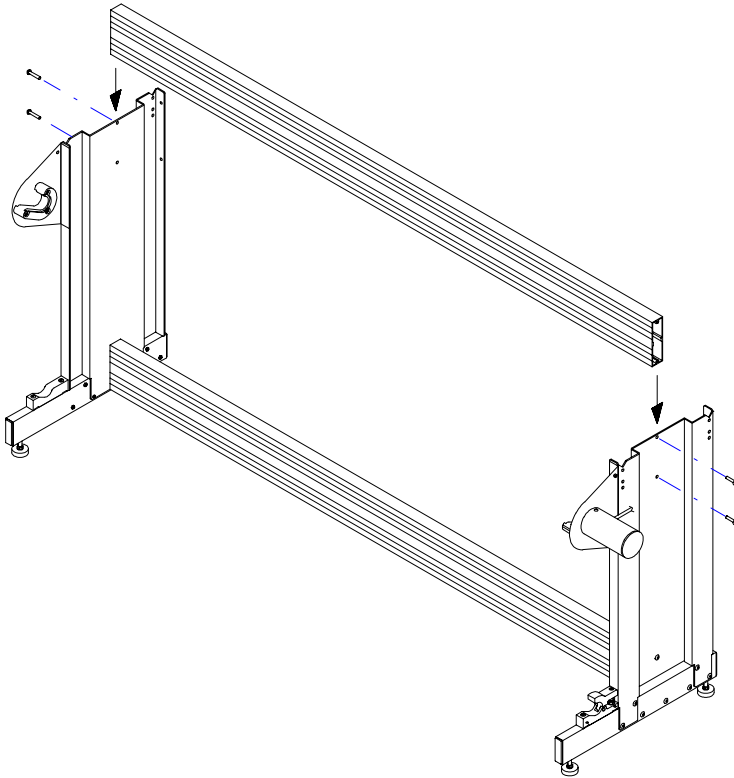

Figure 5. Attaching the upper crossmember.
1. Fasten the remaining crossmember in the upper position on both legs using four 1" button-head screws. See *Figure 5*.